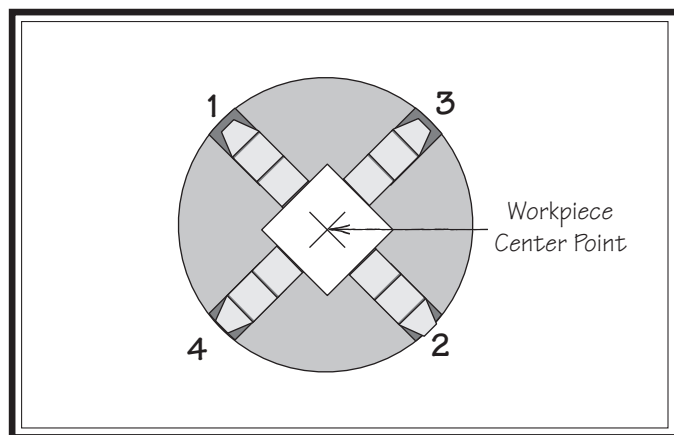

Figure 35. 4-jaw tightening sequence.
5. Tighten each jaw in small increments. After you have adjusted the first jaw, continue tightening the remaining jaws in an opposing sequence, as shown by the sequential order in **Figure 35**.